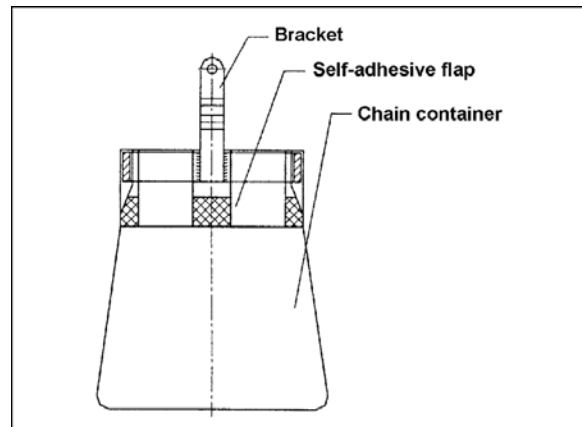

Figure 7
Your hoist is supplied with a canvas chain container (Figure 7) designed to fit the particular length of chain. If a different length chain is ever installed on this hoist, the chain container must be replaced by one of proper size. See chart on page 19.
3. Check the chain container to ensure that the seam is inside the bag. The bag must not be inside out. The forks of the bracket are inserted into the slots in the bag, which is then secured by closing the two self-adhesive flaps (see Figure 7).